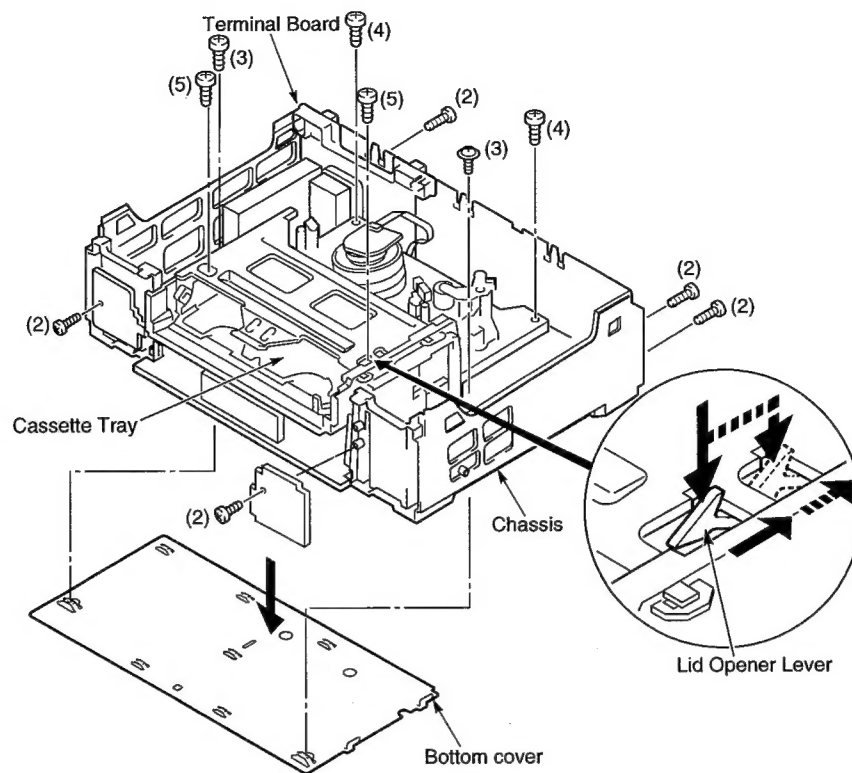

Fig. 1-1-2
### REMOVING THE MECHANISM MAIN UNIT AND THE CP-1 PWB ASSEMBLY (Fig. 1-1-2 and 1-1-3)
1. Remove the five screws (2) as shown in Fig. 1-1-2.
2. Remove the two screws (3) at the CP-1 board, and then disconnect the bottom cover.
3. Remove the two screws (4) and two screws (5) of the mechanism unit. The two screws (5) of the cassette tray can be removed easily by pushing the lid opener lever in the arrow direction to remove the lock as shown in the enlarge view.